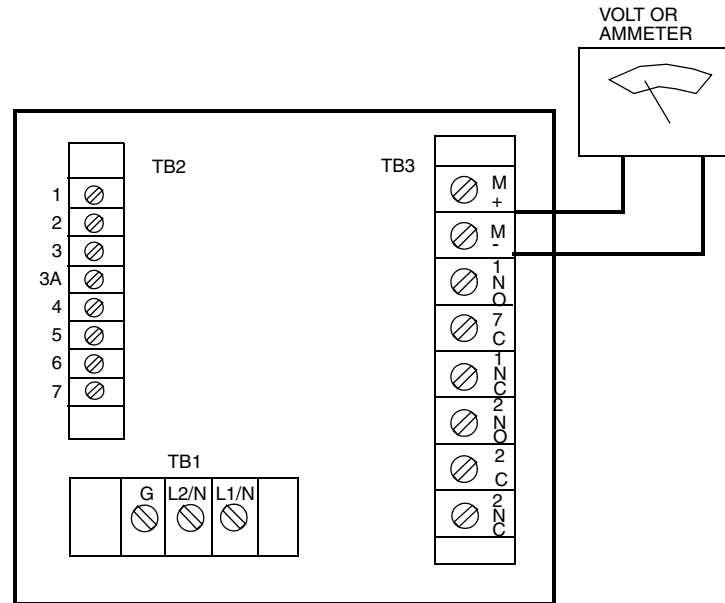

Figure 20. Output Terminals and Volt/Amp Meter (Plastic Enclosure Shown)
1. Connect an ammeter/voltmeter to the analog output terminals. For LC01 and HC01, connect to Channel 1 output terminals. For LC02 and HC02, connect to Channel 2 output terminals. See Figure 20 and Figure 8 on page 16 or Figure 9 on page 18.